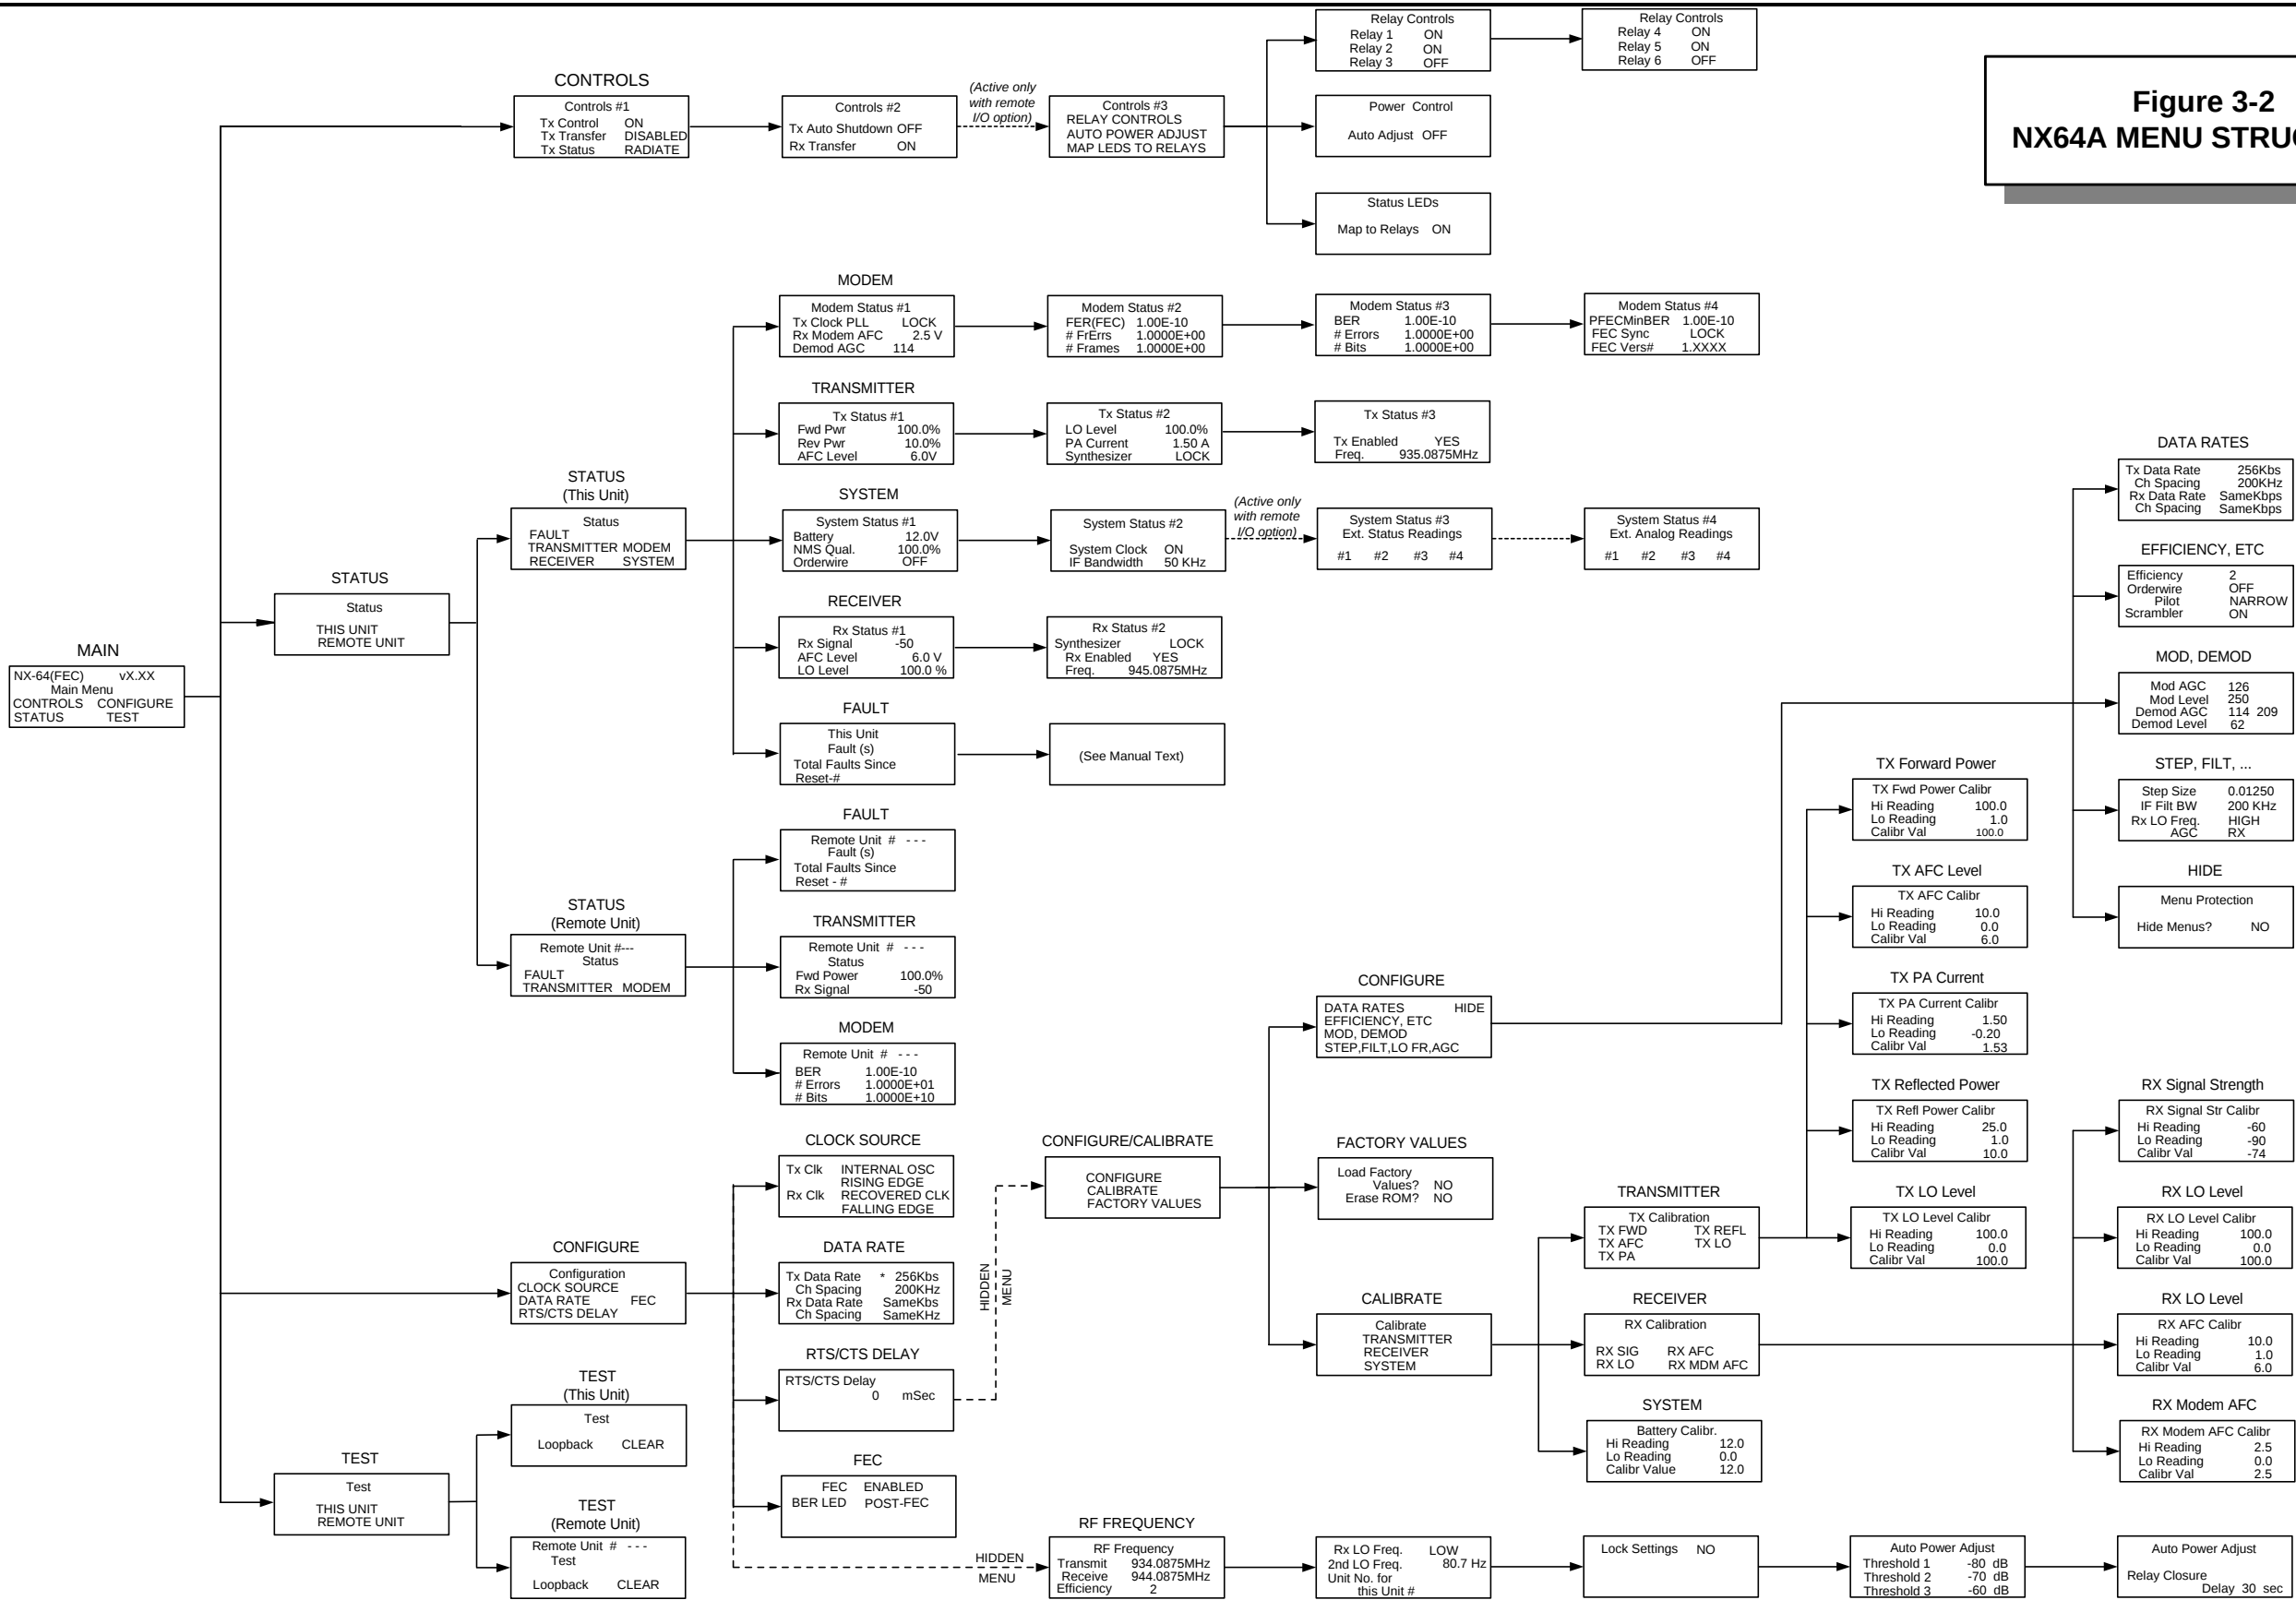

Figure 3-2
- **Section 3.3** Introduces the NX64A screen menus with a very useful flow diagram (Figure 3-2).
The screen menu flow diagram in Figures 3-2 provides a graphic representation of the entire LCD display menu structure.